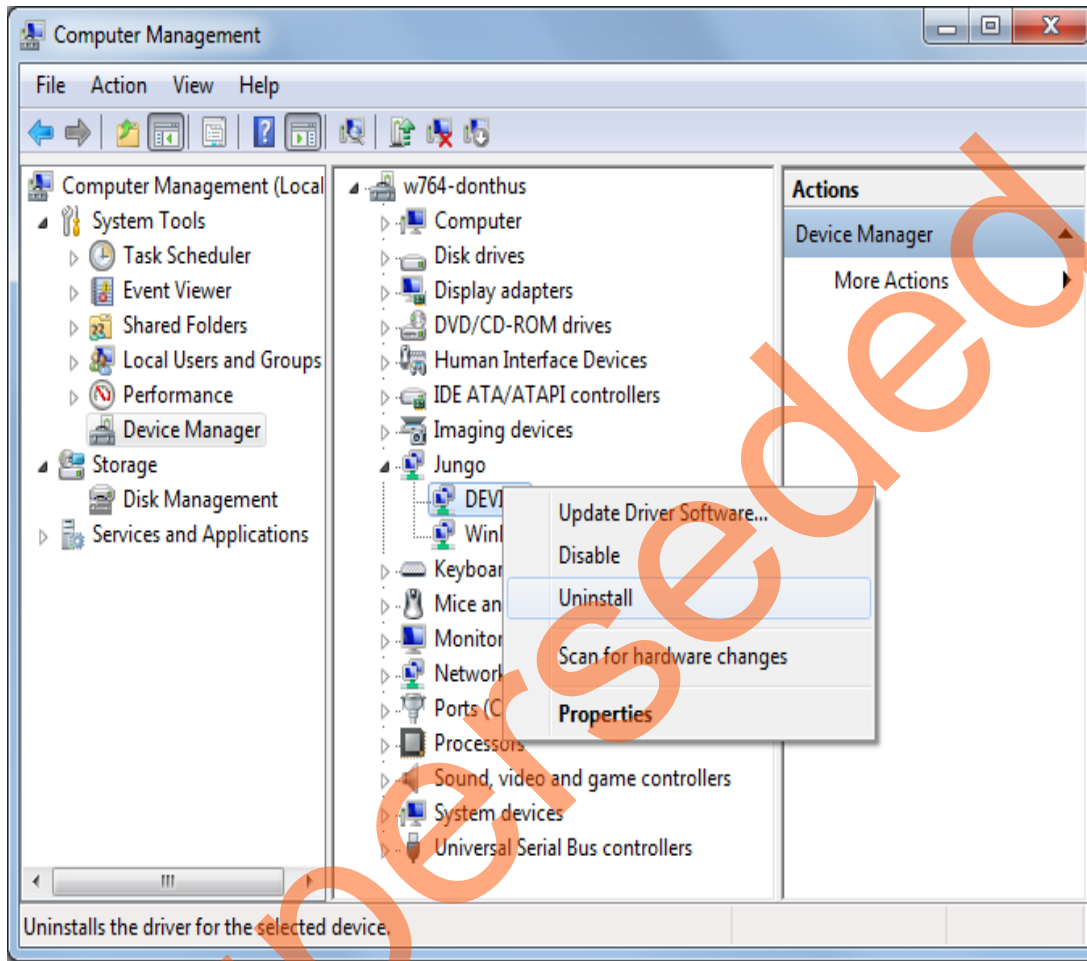

Figure 10 • Uninstalling Jungo Driver
- a. To uninstall previous Jungo drivers, go to device manager and right-click on **DEVICE**. See, Figure 10.